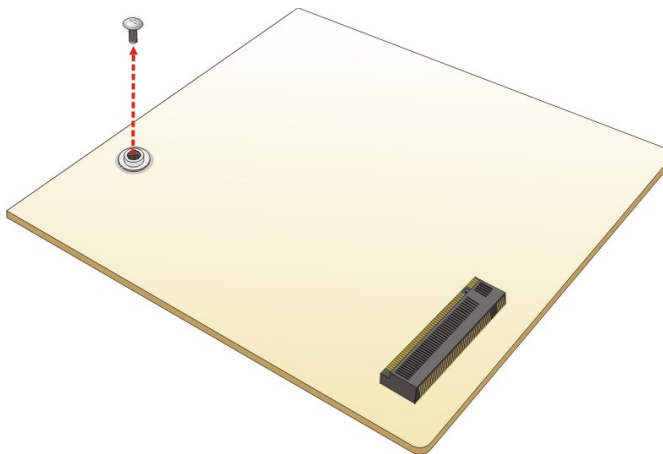

Figure 3-2: Removing the SSD Retention Screw
Step 2: Remove the on-board retention screw as shown in **Figure 3-2**.